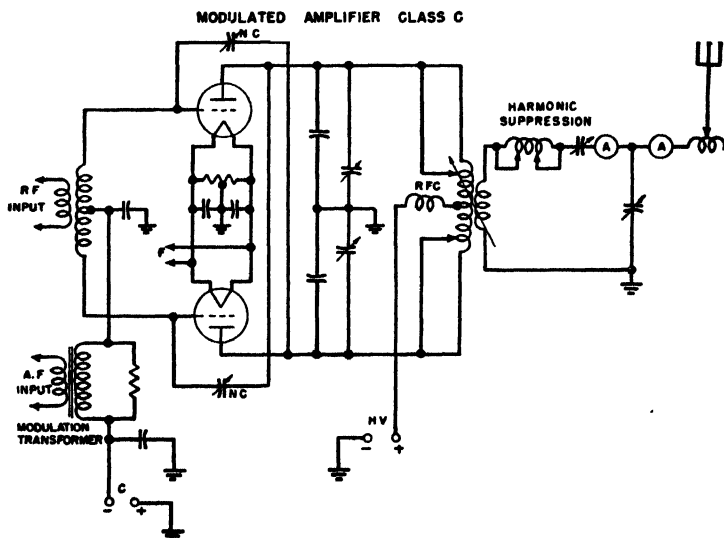

FIG. 4-6.—Grid-bias modulated class C radio-frequency amplifier with inductive coupling to the antenna.
**Ans.** Figure 4-6 illustrates a simple schematic of a grid-bias modulated radio-frequency stage.